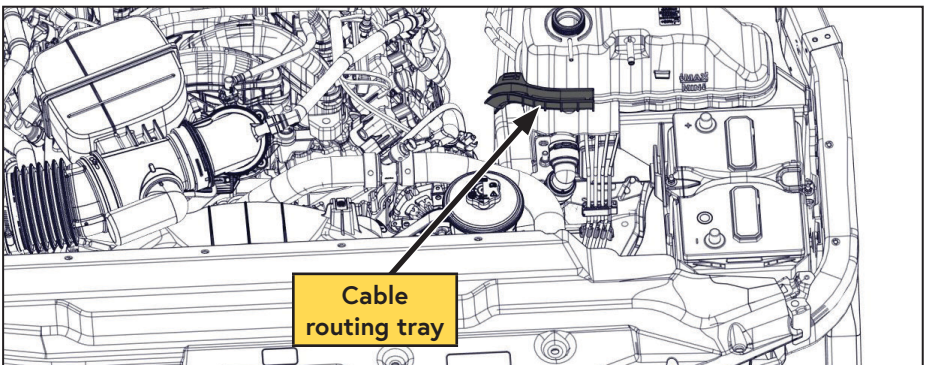

Figure 1 — Secure battery wires out of the way
- If equipped:** Remove the battery wires from the routing tray and pass them to the opposite side of the engine; this provides clearance for the install (Figure 1).